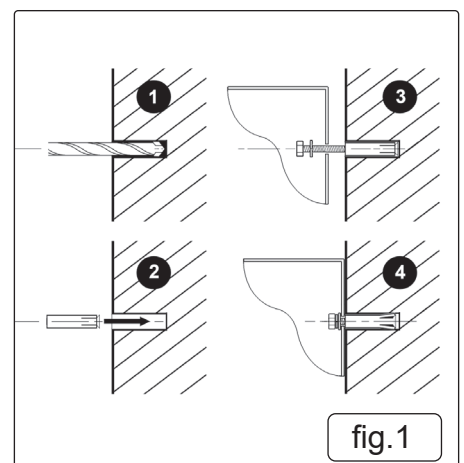

fig. 1
- 4.3. **INSTALLATION INSTRUCTIONS** (fig.1)